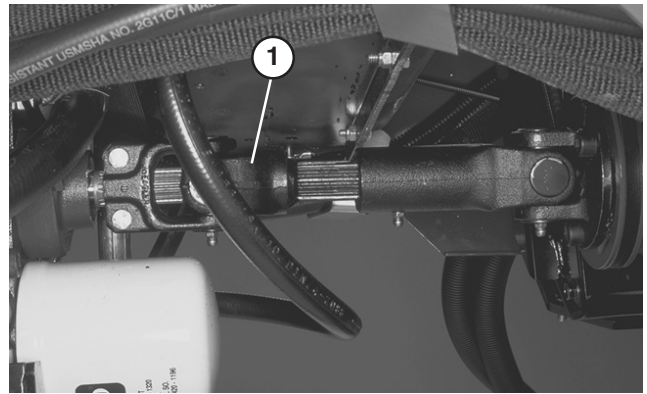

Figure 33
1. Loosen and remove capscrews securing the drive shaft to the engine drive coupler. Loosen capscrews clamping drive shaft to transmission (Fig. 33). Remove drive shaft.
5. When towing is completed, reinstall driveshaft as shown in Figure 33. The splines are designed to allow assembly only when the two halves of the shaft are properly oriented.